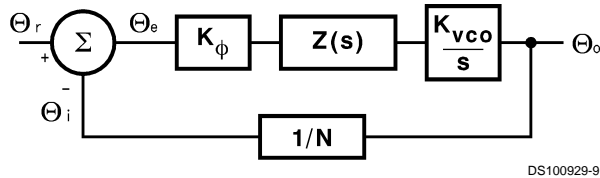
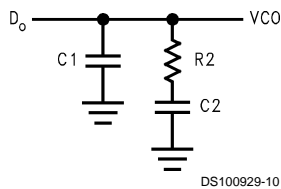

FIGURE 2. PLL Linear Model
FIGURE 3. Passive Loop Filter
A linear control system model of the phase feedback for a PLL in the locked state is shown in Figure 2. The open loop gain is the product of the phase comparator gain ( $K_\phi$ ), the VCO gain ( $K_{VCO}/s$ ), and the loop filter gain  $Z(s)$  divided by the gain of the feedback counter modulus ( $N$ ). The passive loop filter configuration used is displayed in Figure 3, while the complex impedance of the filter is given in Equation (2).